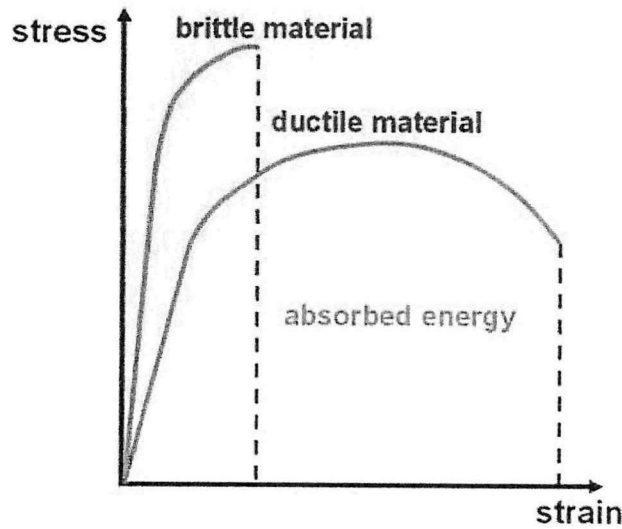

Figure Q1(a)
Q1 (a) Describe the fracture mechanisms that are involved in two (2) materials as shown in **Figure Q1(a)**.